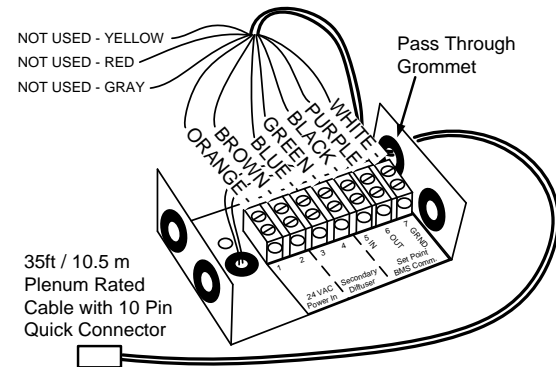

Fig. 8
20. Rout the open end of the 35ft/10.5m plenum rated cable with 10 pin connector through the grommet opposite the label on the screw terminal side (see Fig. 8).
21. Connect the wires of the 35ft/10.5 plenum rated cable with 10 pin connector (see Fig. 8):